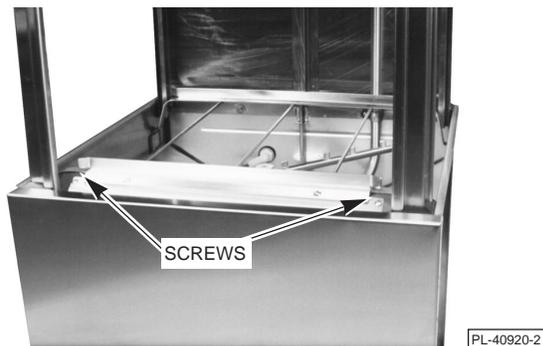

Fig. 2
2. Remove the two screws and nuts at the outer edges of the splash guard (Fig. 2).